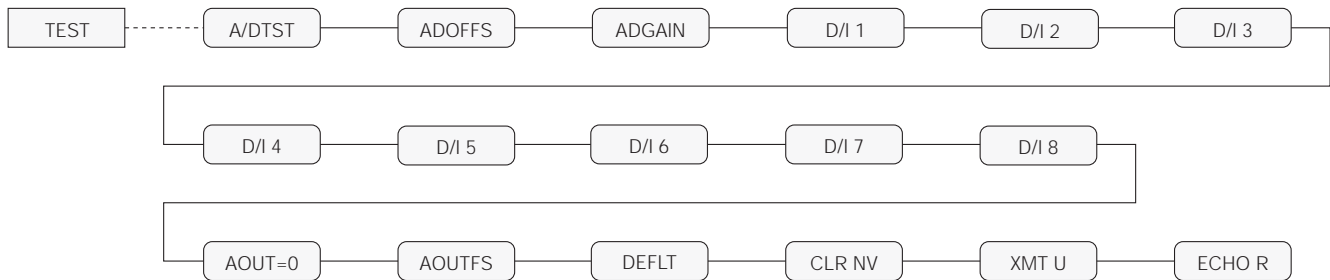
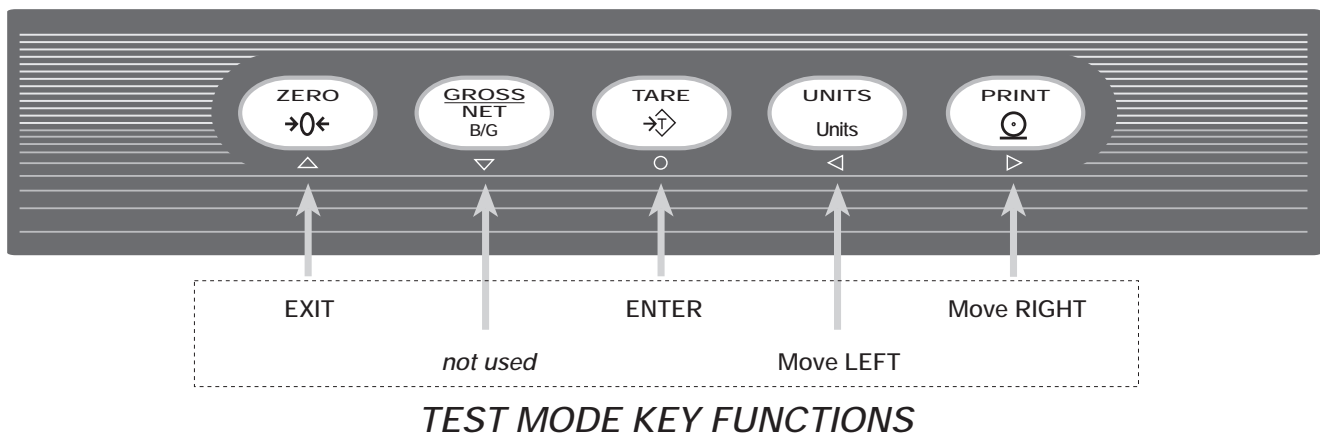

Figure 7-6. Test Menu
Figure 7-7. Front Panel Key Functions in Test Mode
Figure 7-6 shows the Test Menu structure; Figure 7-7 shows the front panel key functions in test mode. Note that, because the Test Menu functions are all on a single menu level, the GROSS/NET (▽) key has no function. Press the ZERO (△) key to exit test mode.
- Restore defaults (DEFLT)Use the navigation keys (press ◀ or ▶ to scroll left or right) to go to the *CLR NV* and *DEFLT* menu items (see Figure 7-6 on page 48).